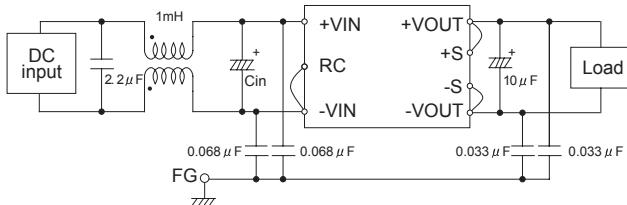

Fig.3.1 Recommended external input filter
(3) Recommendation for noise-filter
- Install an external input filter as shown in Fig.3.1 in order to reduce conducted noise. Cin is shown in Table 2.1.